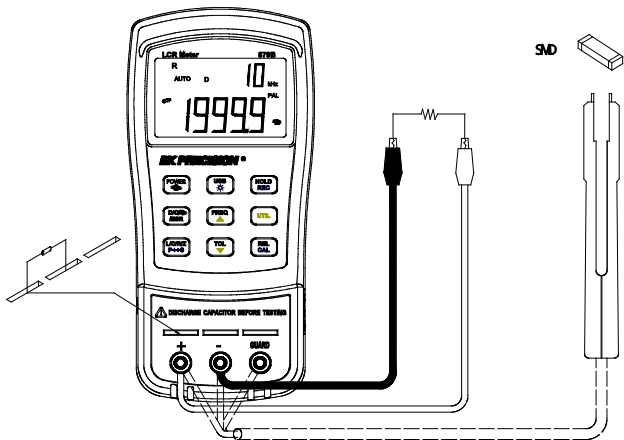

Figure 12 - Resistance Measurement Setup
3. Insert resistor or resistive component into the input sockets or connect alligator leads into the banana jack input terminals and connect the clips to the component leads as illustrated in Figure 12.